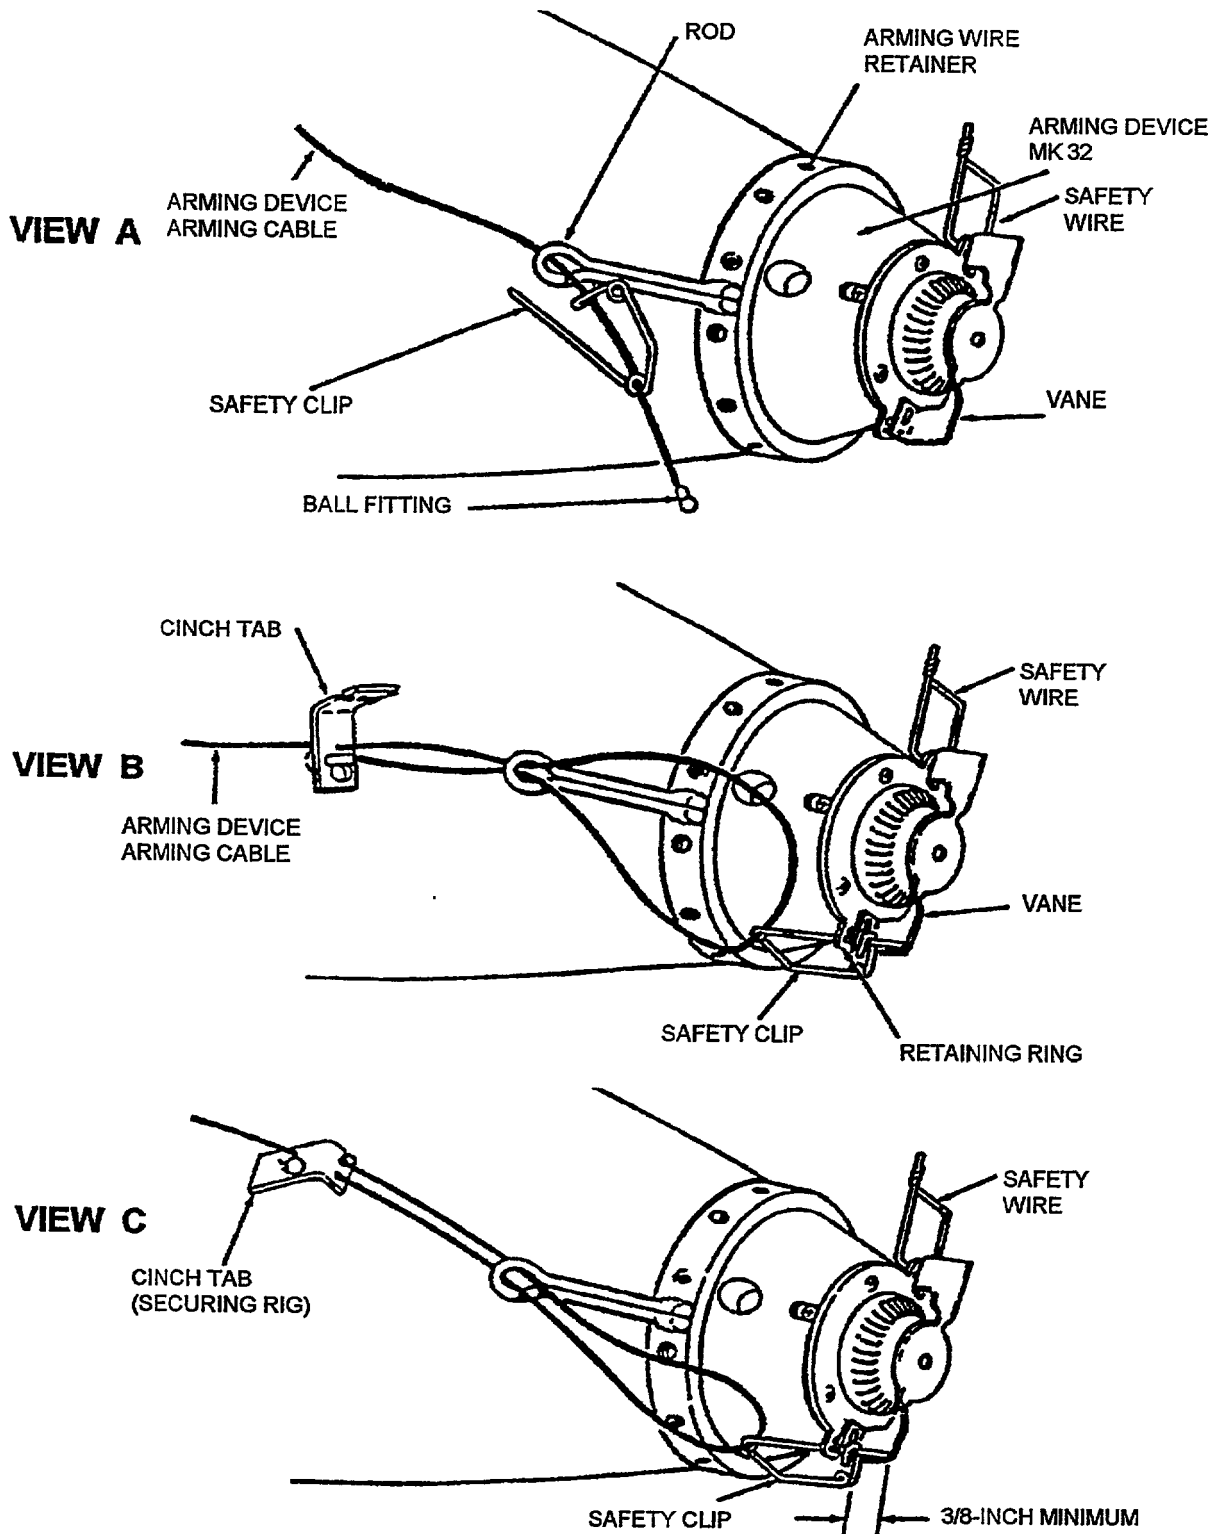

Figure 4-15C. Arming Device Arming Cable Rigging
- (1) Remove plastic bag(taped to side of tail section containing one arming device arming cable, with Dexter clip and cinch tab.
- (2) Remove cable from bag. Uncoil the arming device arming cable.
c. Rig the arming device arming cable as follows (Figure 4-15C):
- (1) Remove strap securing bomb to dolly or assembly stand. Route cable with Dexter clip and cinch tab, along the right side of bomb, as viewed from tail section.
- (2) Pass ball fitting swaged to end of cable, through retainer rod (Figure 4-15C, view A).
- (3) Slide the Dexter clip along cable to eye of rod. Open clip and pass the straight leg through the eye of the rod, then work the other parts of clip through eye until pin is positioned between the rod and the arming device (Figure 4-15C, view A).
- (4) Install the Dexter clip in outer holes of arming device arming vane, (Figure 4-15C, view B). If vanes are positioned exactly at 6 and 12 o'clock positions, install the Dexter clip in 6 o'clock vane. If vanes are located at any other position, install safety clip in vane between the 6 and 12 o'clock positions.
- (5) Return the ball fitting to the arming wire retainer and pass it through the eye of the rod a second time (Figure 4-15C, view B).